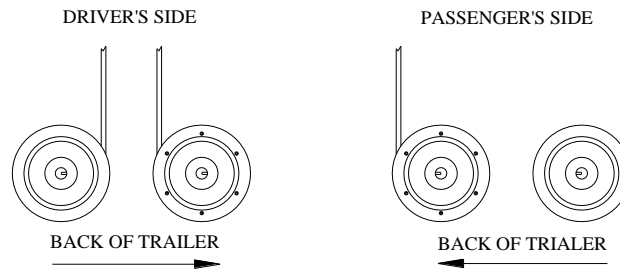

Figure 1
Note: It is possible to mount the return on either side of the trailer. For example, if the strap is to come off of the "front" of the spool on the driver's side, mount the spool as shown in figure 1 below. For all other mounting options, see illustration below. Also note that you can only see the assembly bolts from one side of the part.
- Slide the spring loaded wheel onto the pin as determined in figure 1 on page 3 (see figure 6 below as an example).